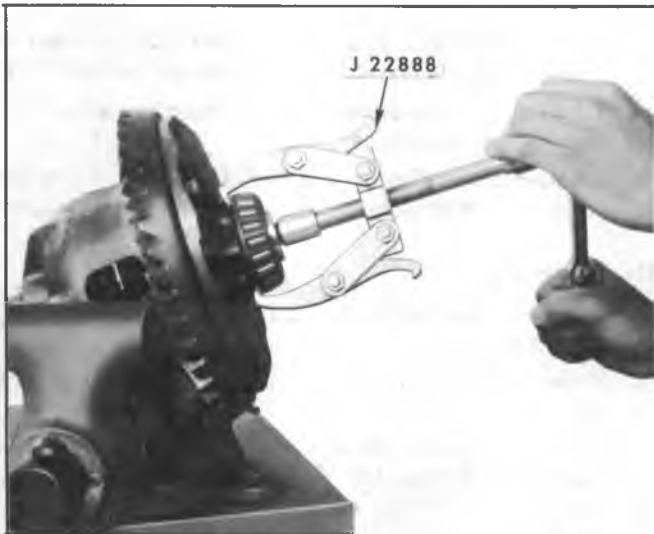

Fig. 3D--Removing Differential Side Bearings
3. Remove differential bearing cone and roller using Puller J-22888, with Plug J-8107-3, Figure 3D. Tag cone and rollers for assembly.